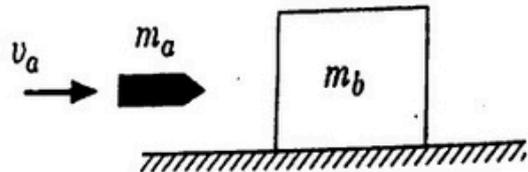

Fig.8.
- Q7 A bullet travelling horizontally with a velocity of 600 m/s and weighing 0.25 N strikes a wooden block of weight 50 N resting on a horizontal floor and gets buried inside the block as shown in Fig.8. The coefficient of friction between the floor and the block is 0.5 . Find the distance through which the block is displaced from its initial position. (10)